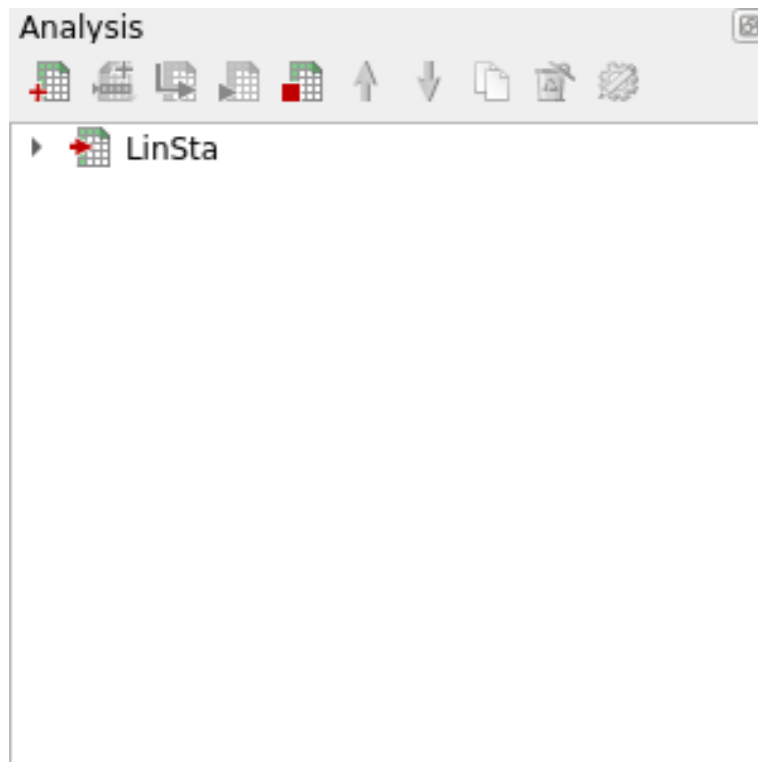

Figure 18: Analysis browser
**Analysis browser** → Analysis1  → Rename  → LinSta [Fig. 18]